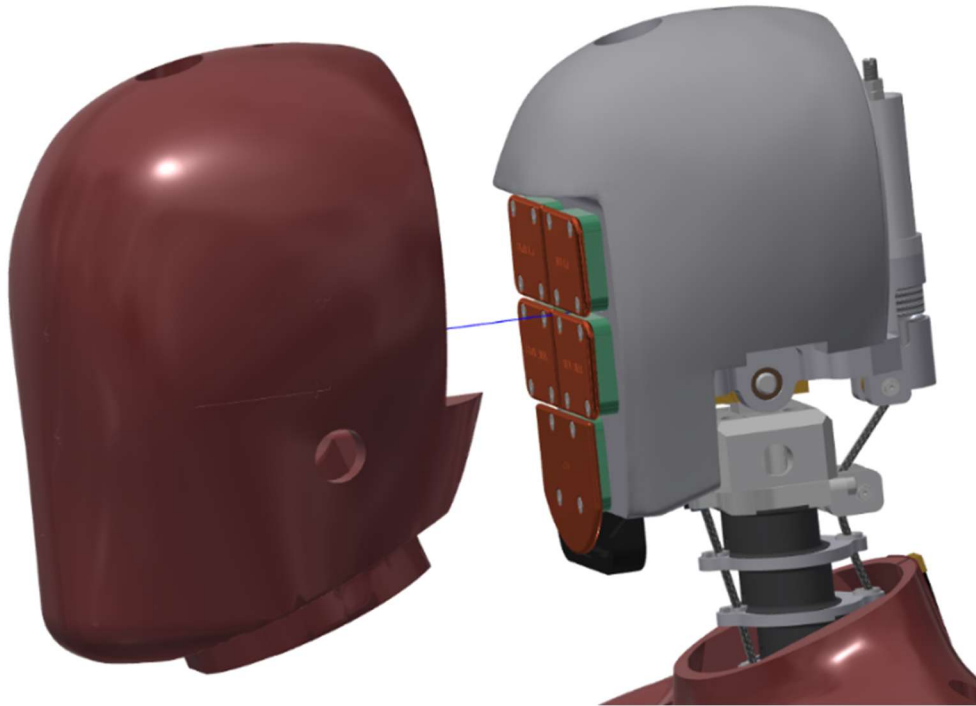

Figure 3-4. Head skin and skull
- 3.2.3 Remove the head skin (474-1008) from the skull (474-1010) by peeling the skin away from the groove in the back of the skull (Figure 3-4).